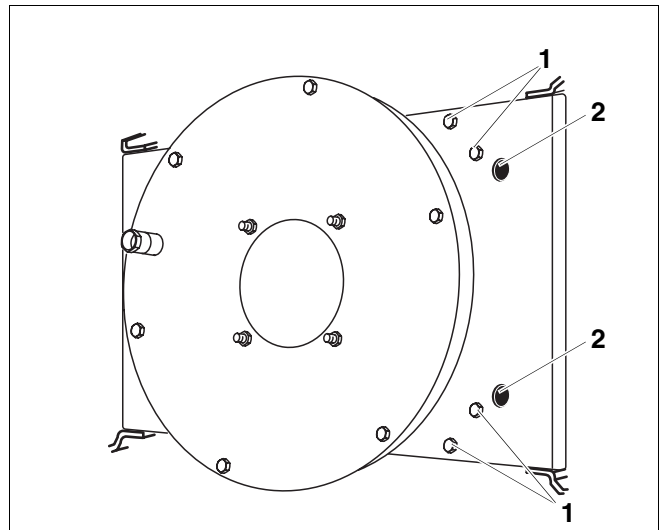
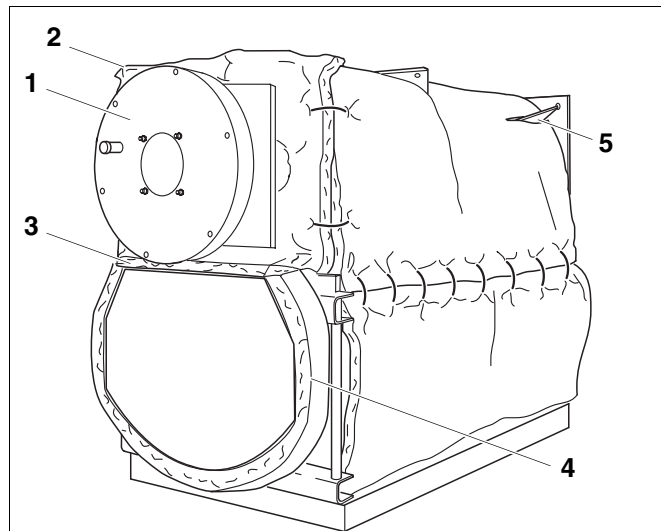
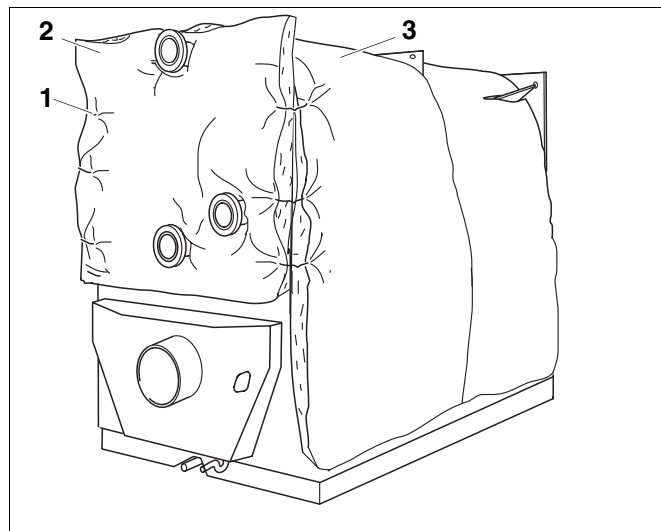

Fig. 6 Screws for opening the burner door
Fig. 7 Burner door insulation blanket
Fig. 8 Rear side insulation blanket
Note the cut-outs for the low water indicator and the cross bracket holder (Fig. 7, **Item. 1 + 5**)!
- Unscrew four hexagon bolts (Fig. 6, **Item. 1**) from the right side of the boiler door (Fig. 7, **Item. 1**) and four from the left side.
The recesses (Fig. 6, **Item. 2**) in the boiler door (2 on the left and 2 on the right side) have been provided for lifting with a crane or hoist, for example for the complete removal of the door.
- Open the burner door (Fig. 7, **Item. 1**)
- Place the insulation blanket with round cut-out (Fig. 7, **Item. 2**), with its wide edge facing upwards, on the left front of the boiler body (wide edge up) and secure with four clips (2 left, 2 right) on the surrounding thermal insulation.
- Position the thermal insulation strip (Fig. 7, **Item. 3**) laminated on the front of the reversing door.
- Position the thermal insulation strips (Fig. 7, **Item. 4**) for the reversing door from below around the side of the reversing door and secure with two clips.
- Locate the rear side thermal insulation (Fig. 8, **Item. 2**) in accordance with the cut-outs on the rear side of the boiler and secure with six clips (Fig. 8, **Item. 1, 3** left and 3 right) on the surrounding thermal insulation (Fig. 8, **Item. 3**).
- Insert the insulation blanket from the burner door (Fig. 7, **Item. 2**) and the rear side (Fig. 8, **Item. 2**) into the upper edge and the front and rear cross bracket.